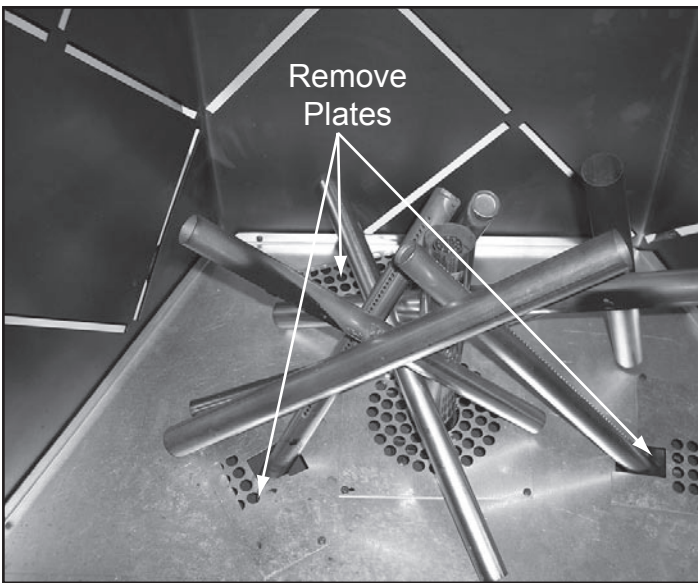

Figure 1 Remove Access Covers
- Remove access covers at base of burner tubes by removing the two screws on each plate. See Figure 1.